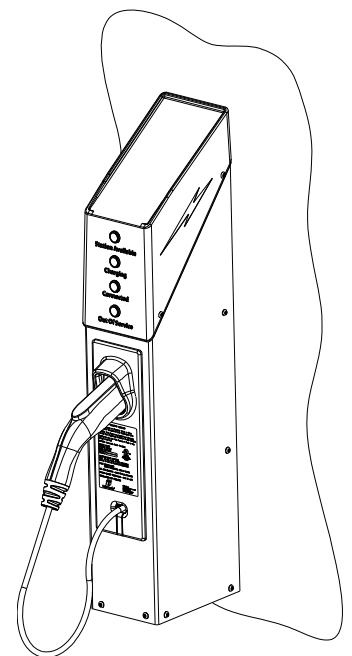

Figure 8 – Completed Installation
13. Return the charging cable to the cord reel by pulling cable approximate ½ inch to allow cable to retract into L1 PowerPost® EVSE. Place charging coupler into connector storage receptacle. (See Figure 8)